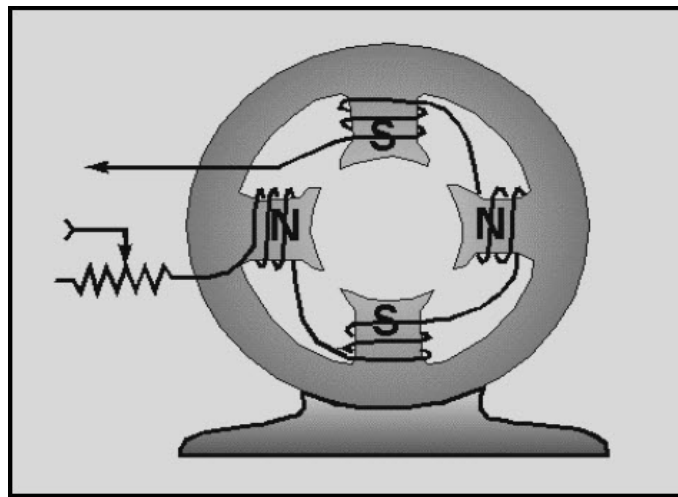

Figure 1-6 Four-pole generator (without armature)
Nearly all practical generators use electromagnetic poles instead of the permanent magnets used in our elementary generator. The electromagnetic field poles consist of coils of insulated copper wire wound on soft iron cores, as shown in figure 1-6. The main advantages of using electromagnetic poles are (1) increased field strength and (2) a means of controlling the strength of the fields. By varying the input voltage, the field strength is varied. By varying the field strength, the output voltage of the generator can be controlled.